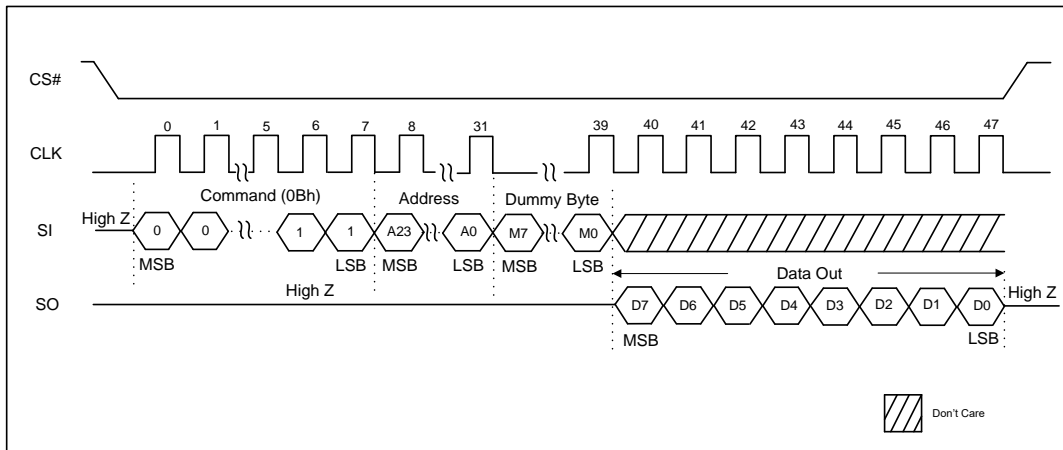

Figure 19: Fast Read (FR) Command Sequence
7.10 Fast Read (FR)
The command sequence is shown in Figure 19. The Fast Read (FR) command is similar to the read data bytes (READ) command with the addition of 8 dummy cycles after the address and before the first data is sent out.